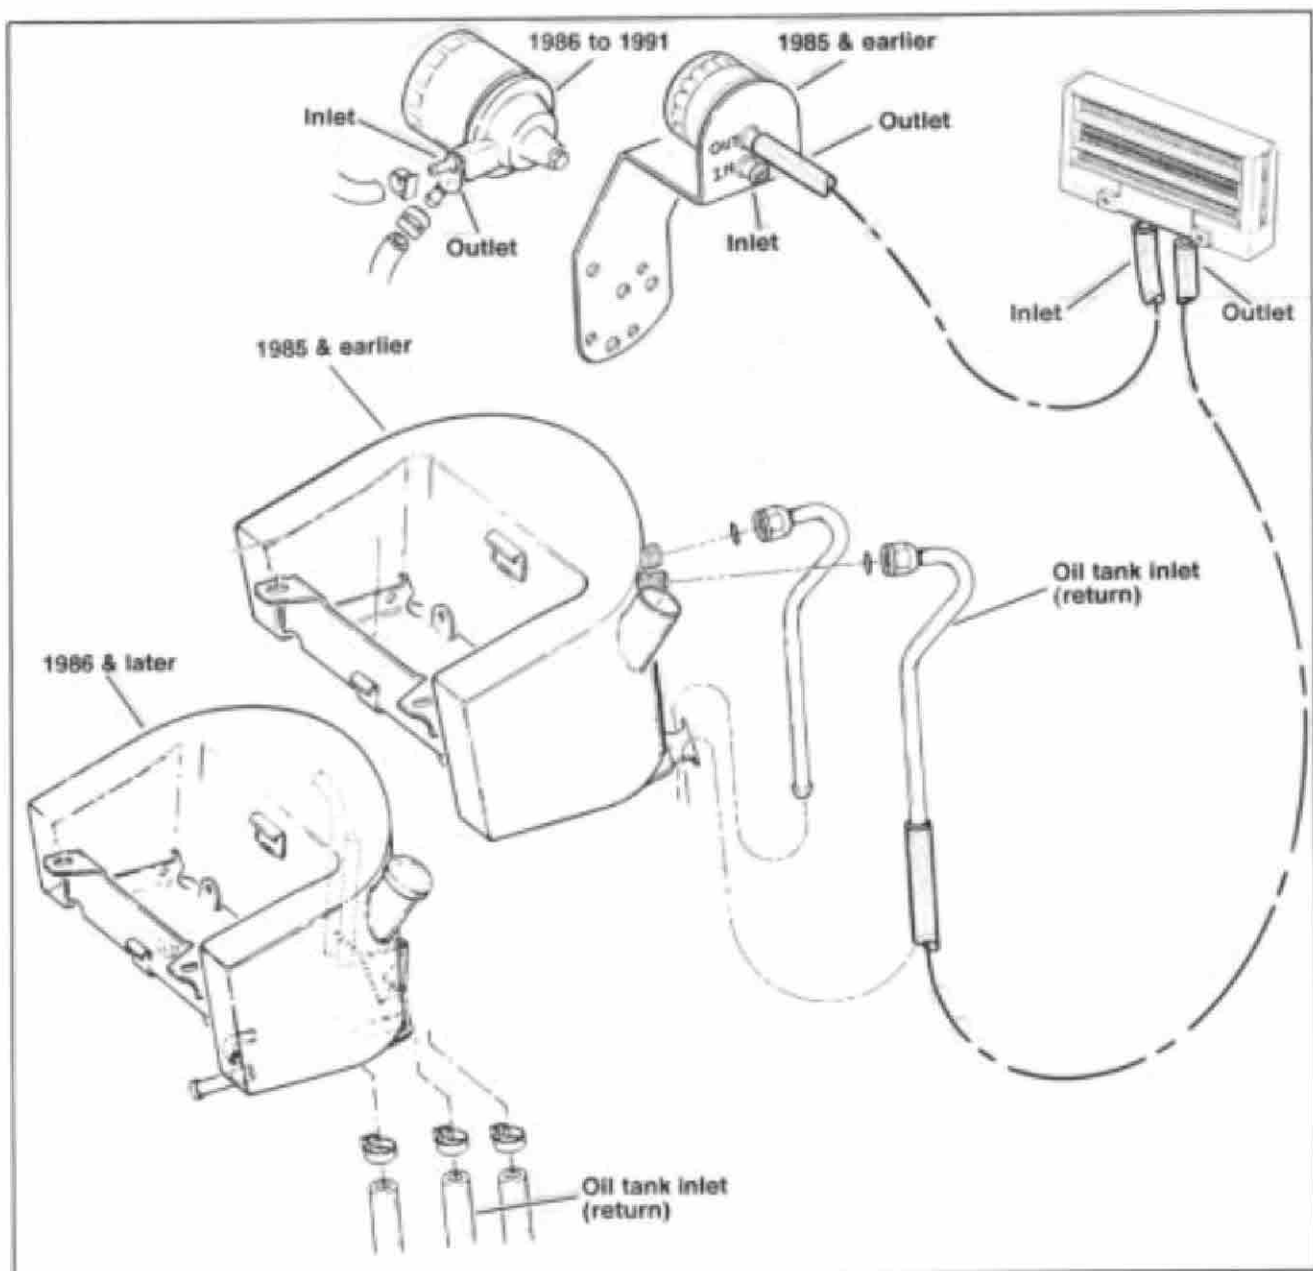

Figure 8. FXST/FLST Oil Cooler Hose Routing
1. See Figure 8. Cut a three foot length from kit hose. Attach one end to the outlet fitting on oil filter mount. Route other end up right downtube to oil cooler inlet fitting. Cut off excess hose and secure with clamp.